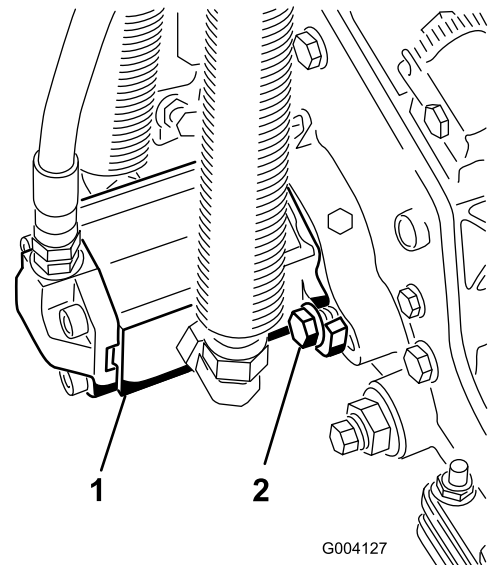

**Figure 19**
14. Secure the lift-arm chain to the chain bracket with the snapper pin (Figure 19).